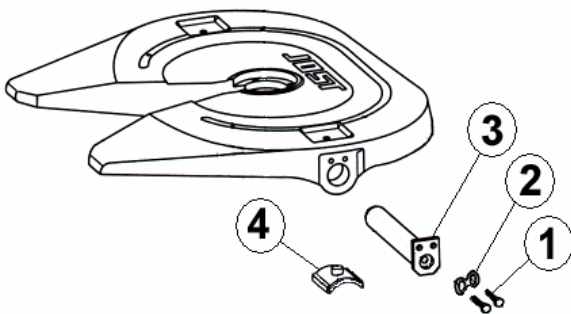
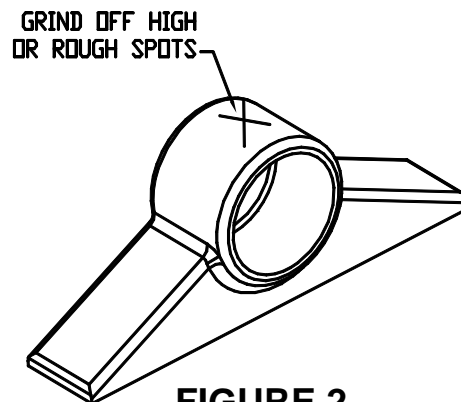

FIGURE 1
FIGURE 2
1. Remove the 1/2-13 hex head cap screws (figure 1 item 1) and locking tabs (item 2).
2. Remove the bracket pins (item 3).
3. Inspect the top of the bracket cap and grind off any high or rough spots (see figure 2).